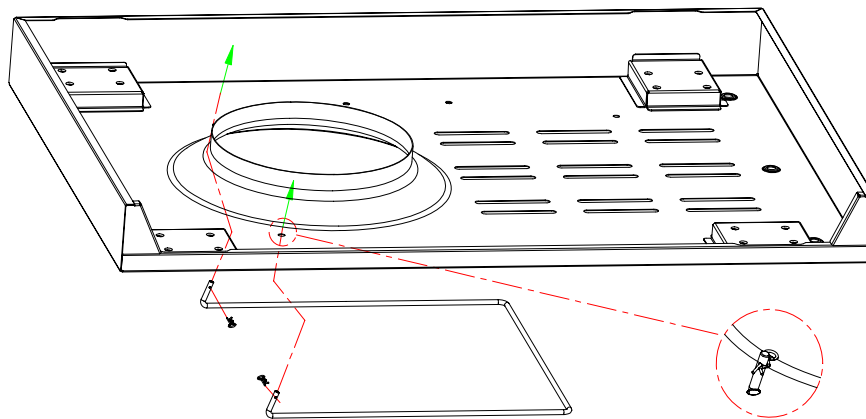

Fig.1a
1. Attach the tank holder to the bottom shelf with two (2) cotter pins as shown in Fig.1a.